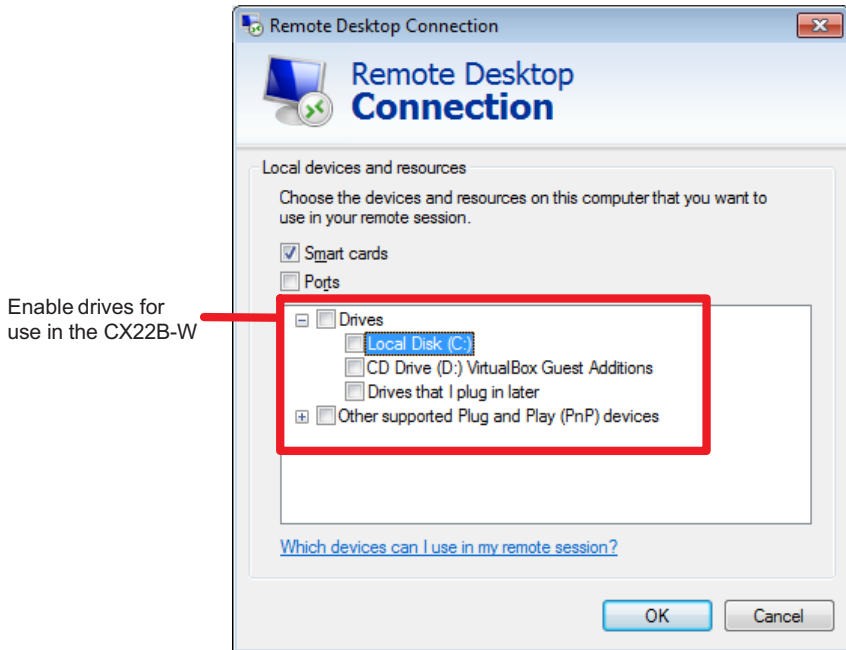

Fig. 6.7 Dialog for enabling additional resources
- ▶ Enable the required drives of your PC for use in the CX22B-W (Fig. 6.7).